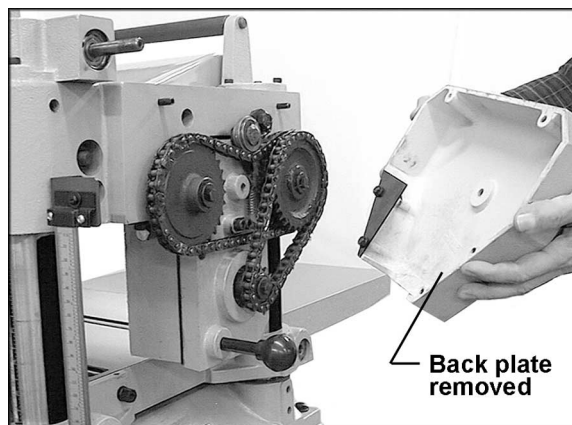

Figure 30
2. Remove the socket head cap screw from the center of the cover, and remove the left triangular back plate. See Figure 30.